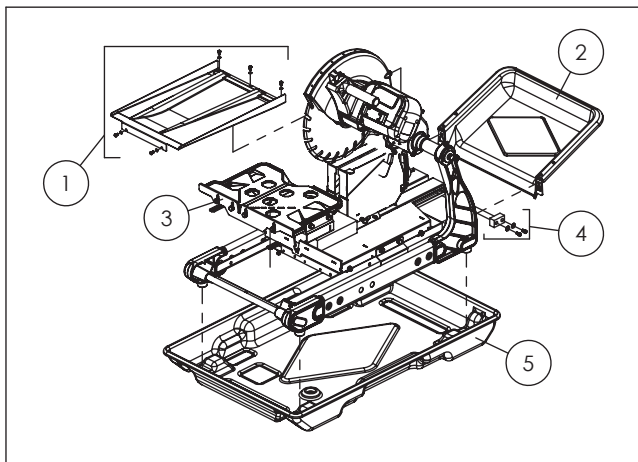

Figure 5: Prepping masonry saw to receive vacuum table
1. Remove items, if mounted on saw already, as shown in *Fig 5*.